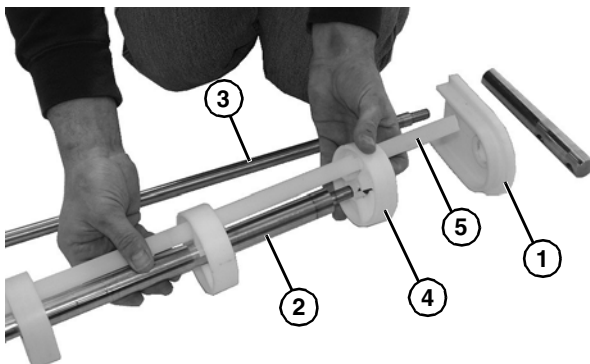

Figure 62
3. Remove pinch guard (**Figure 62, item 1**) from idler shaft (**Figure 62, item 2**) and pinch guard shaft (**Figure 62, item 3**).
4. Slide the pucks (**Figure 62, item 4**) and alignment bar (**Figure 62, item 5**) off the idler shaft (**Figure 62, item 2**).